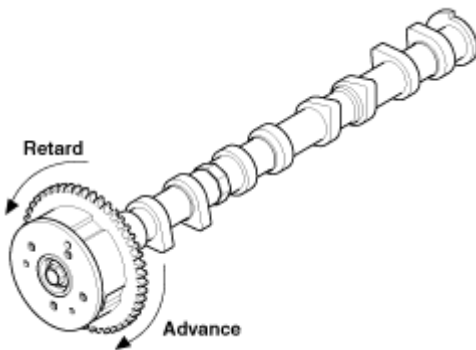

Fig. 30: Identifying Retard Direction & Advance Direction Of CVVT Assembly
4. With air applied, as in step (3), turn the CVVT assembly to the advance angle side (the arrow marked direction in **Fig. 30**) by hand.